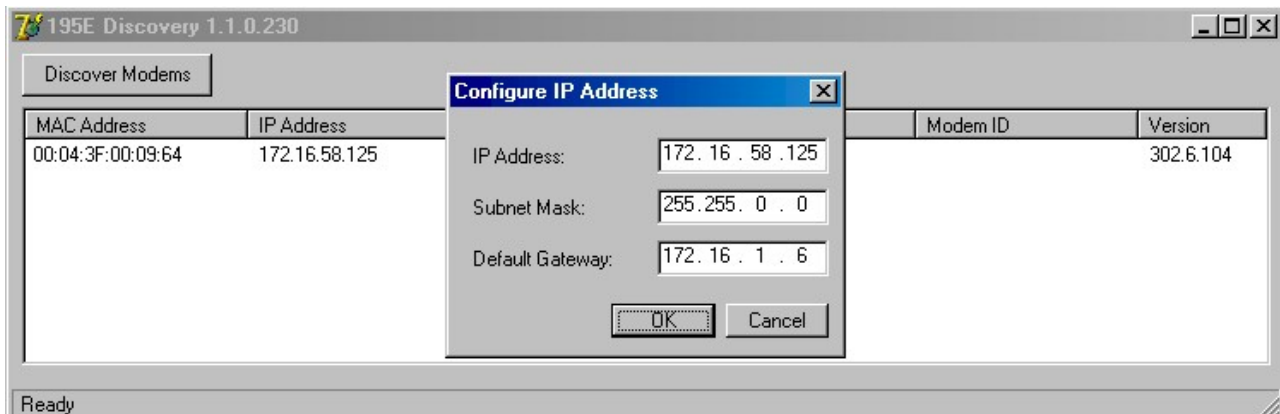

Figure 8: Change IP Address Window
5. Double-click on the 195Ep you want to program and the *Configure IP Address* window will be displayed (Figure 8). Enter an IP address and Subnet Mask for the 195Ep that matches your network subnet and press the OK button to save this to the ESTeem. You will receive notification that the Configuration was Successful and the 195Ep will reboot. Proceed to ESTeem Setup in Chapter 4.